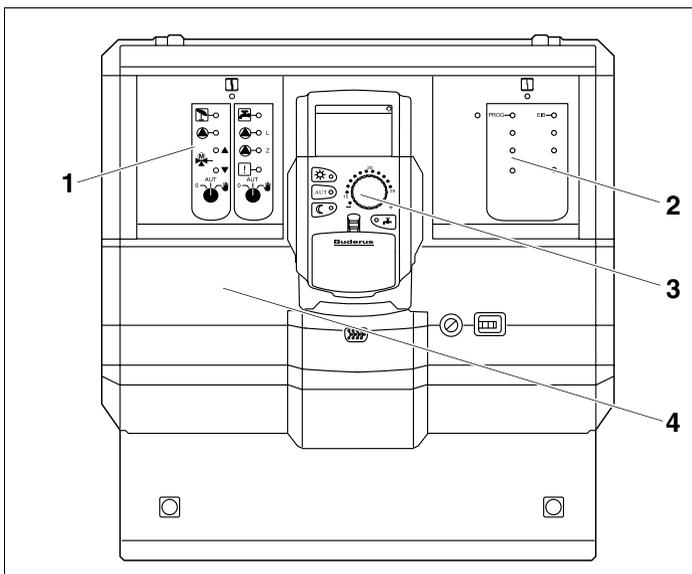

Fig. 3 Function module FM 446 inside the Logamatic 4112 control device
Slot B (Fig. 3, **item 3**) is located behind the MEC 2 programming unit and contains the controller and the power supply module (CM, NM).
Slot B (Fig. 3, **item 5**) is located behind the MEC 2 programming unit and contains the controller and the power supply module (CM, NM).